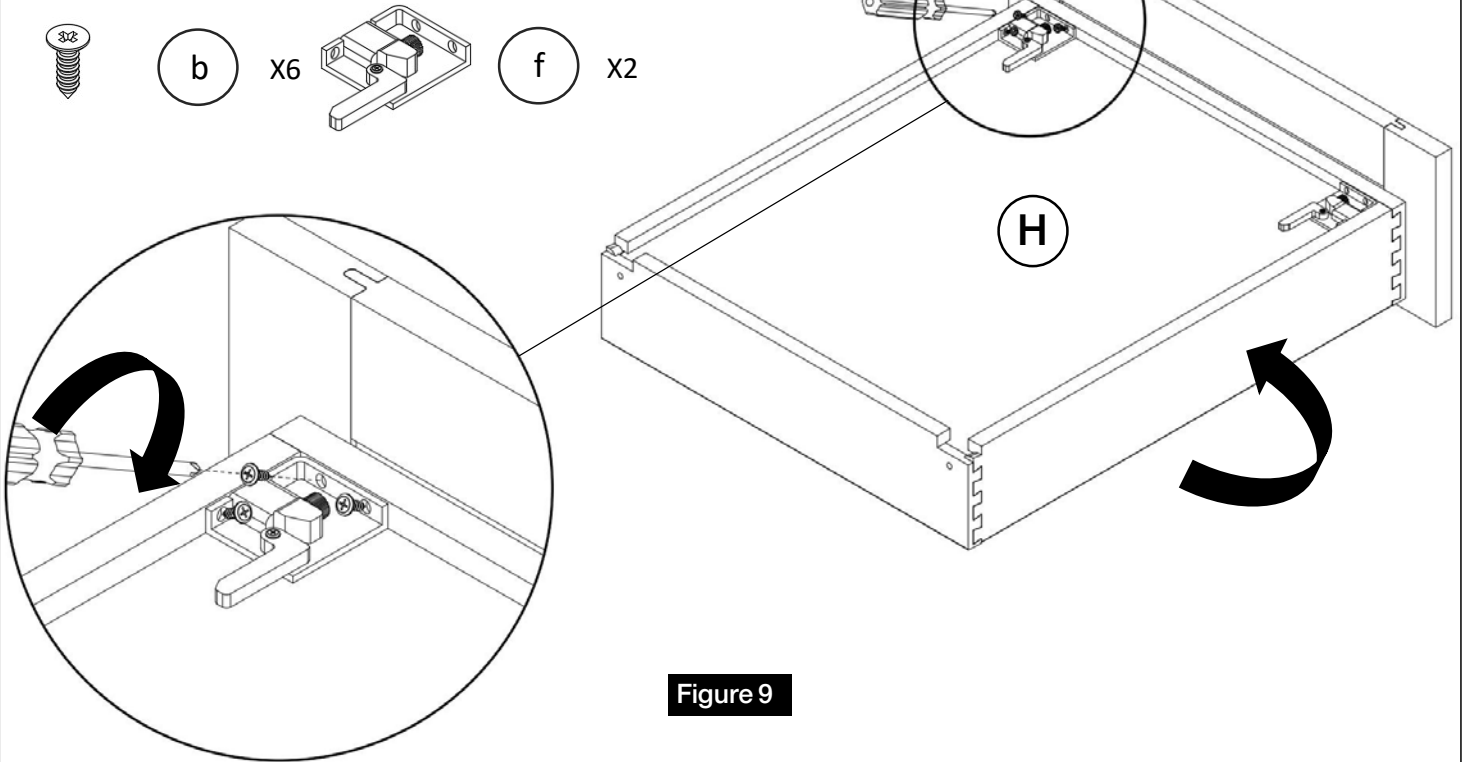

Figure 9
Attach the Drawer Clips (f) using screws (b) onto the bottom of the drawer. (H) (Figure 9)